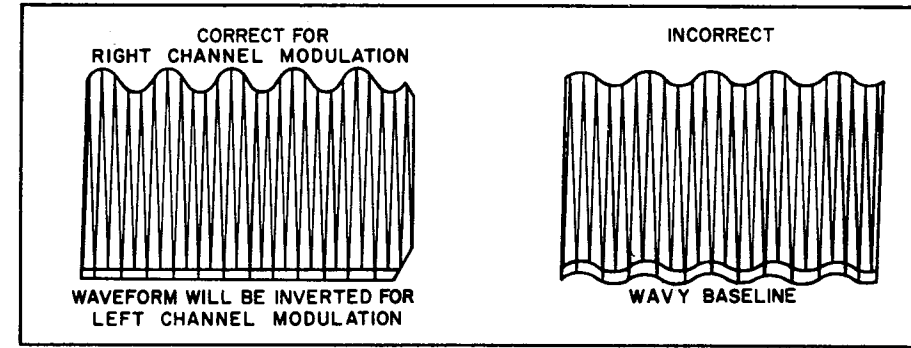

Figure 9. Waveform At Test Point 402.
(6) Adjust core of Z403 (on AM/FM IF, MPX board) for maximum gain and as straight a base-line as possible on scope (see Figure 9). AC VTVM should read minimum.
(7) With MPX generator modulated on right channel only, connect AC VTVM to Right RCDR OUT jack. Record reading on AC VTVM.
(8) Set MPX generator to modulate left channel only. Adjust R107 SEPARATION CONTROL (on preamplifier board) for minimum reading on AC VTVM; at least 30 dB below reading in recorded in Step (7). Record reading.
(9) Connect AC VTVM to Left RCDR OUT jack. Same reading ± 2 dB as recorded in Step (7).
(10) Set MPX generator to modulate right channel only. Same reading ± 3 dB as recorded in Step (8).